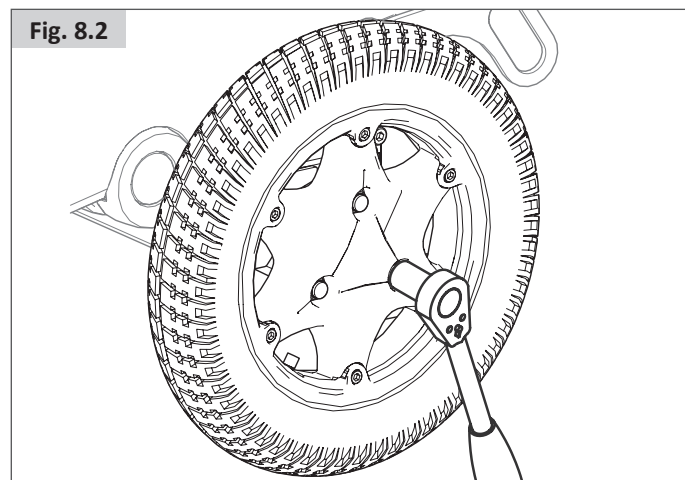

Fig. 8.2
- Use a 16 mm AF lug nut to loosen the 3-Socket studs, (Fig. 8.2).